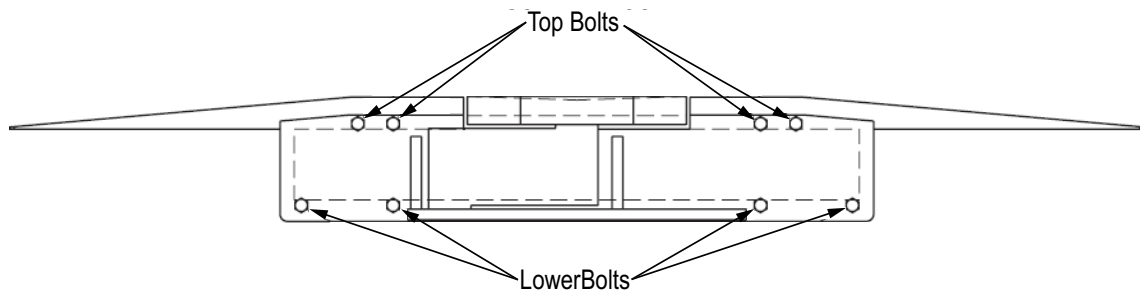

Figure 2-3. Top and Lower Bolts of Scale Mounting Bracket
2. Loosen the four top bolts (Figure 2-3 on page 3) of the scale bracket.
3. Remove the four lower bolts (Figure 2-3 on page 3) of the scale bracket.